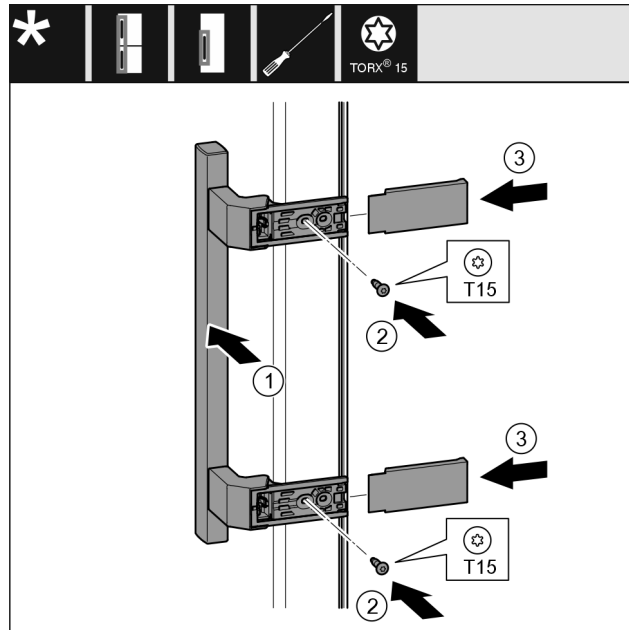

Fig. 25
- Place the handle Fig. 25 (1) on the opposite side.
- Tighten screws Fig. 25 (2) with screwdriver.
- Place the covers Fig. 25 (3) on the side and push them on.